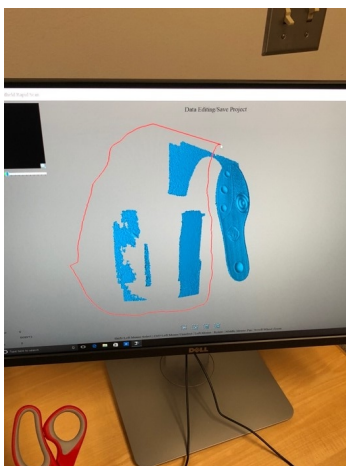
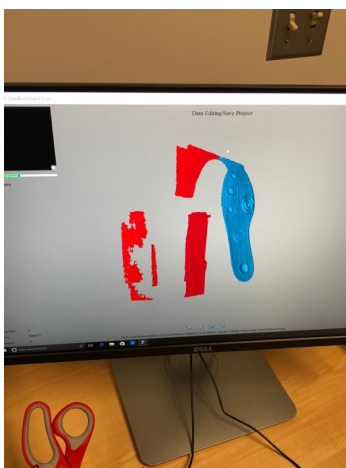

Figure 6: Select the portions of the scan that do not include the sole of the shoe.
Figure 7: The selected portions will turn red.
8. After the scan has been completed, use shift and the left mouse button to select the areas of the scan that are not the shoe (Figure 6) (ie. table, shoe lace, stand, etc.). These portions will then turn red and are selected to be removed (Figure 7).